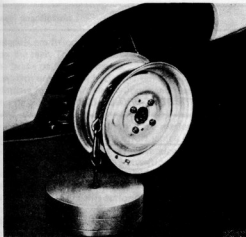

Fig. 8.15. Using a wheel rim and suspended weight to test the limited-slip differential (Sec. 5)
- 7 Move, or assemble, the 100 lb (45.3 kg) mass beneath the free end of the cable on the wheel rim. Attach the cable to the mass securely (Fig. 8.15).